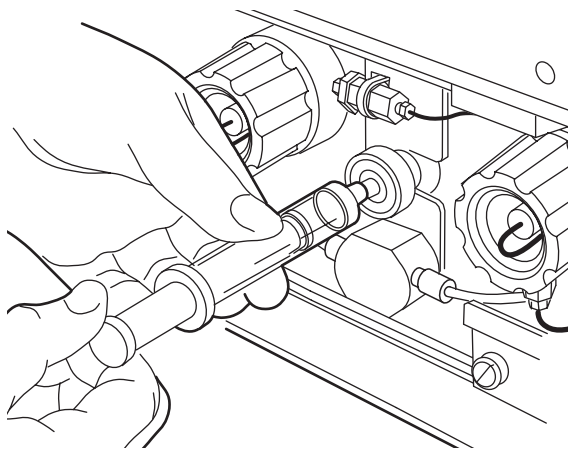

Figure 4-7 Prime/Vent Valve with Syringe
4. Attach an empty syringe to the prime/vent valve, as shown in Figure 4-7, then open the valve by turning it counterclockwise 1/2-turn.